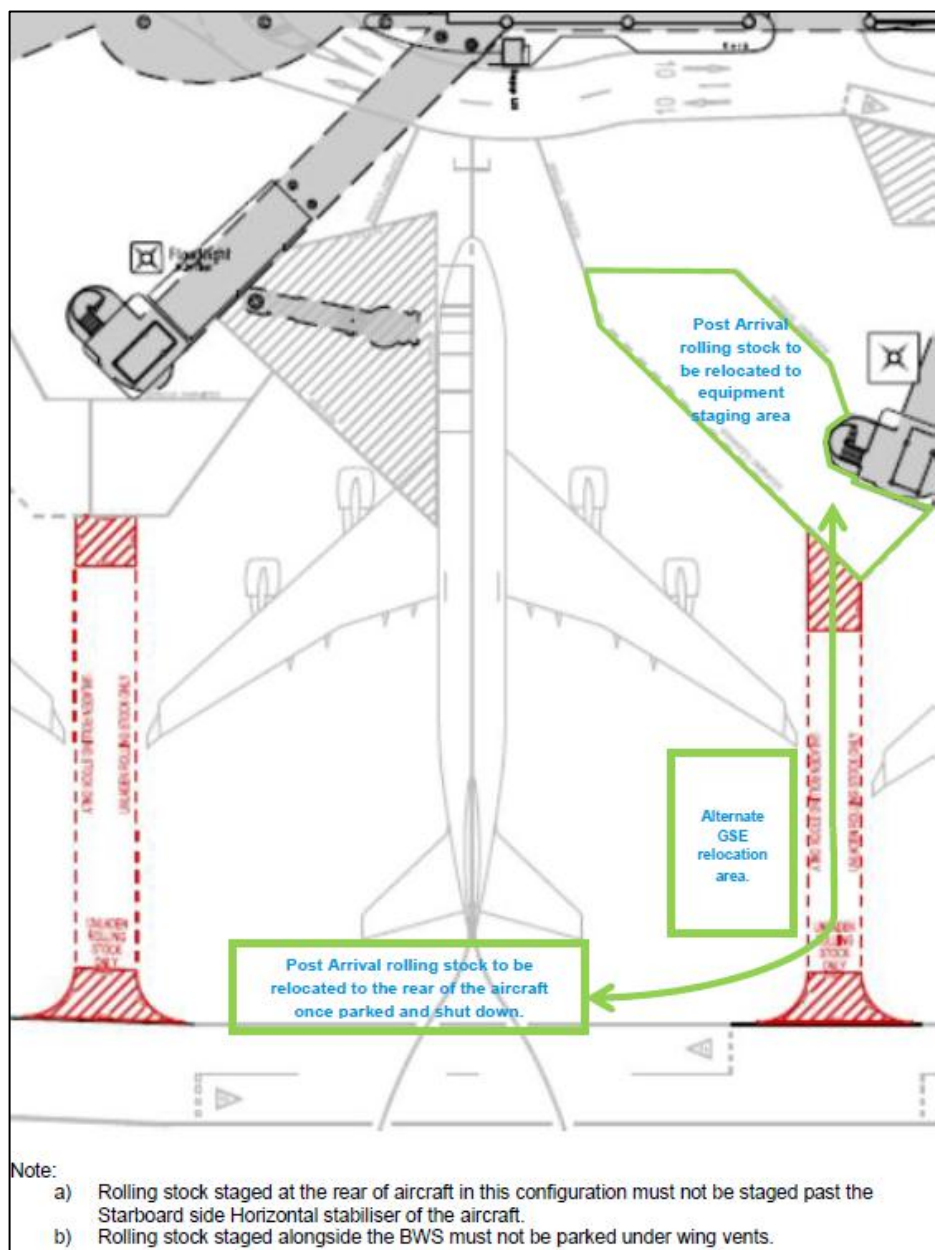

Figure 3: Staging alongside BWS post-arrival
6.5 Alternatively, GHA's may elect to relocate rolling stock to a position behind the trailing edge of the Starboard side wing alongside the marked BWS area. In this configuration, whilst behind aircraft staging remains available, equipment may only be stored to a point in line with the edge of the Starboard side Horizontal Stabiliser in order to maintain access to the rear hold and egress of refuelling vehicles (See Figure 3). GHA's must also ensure no equipment is parked under any wing vents. For guidelines regarding the positioning of equipment under aircraft wings please refer to relevant airline procedures for ground handling standards.